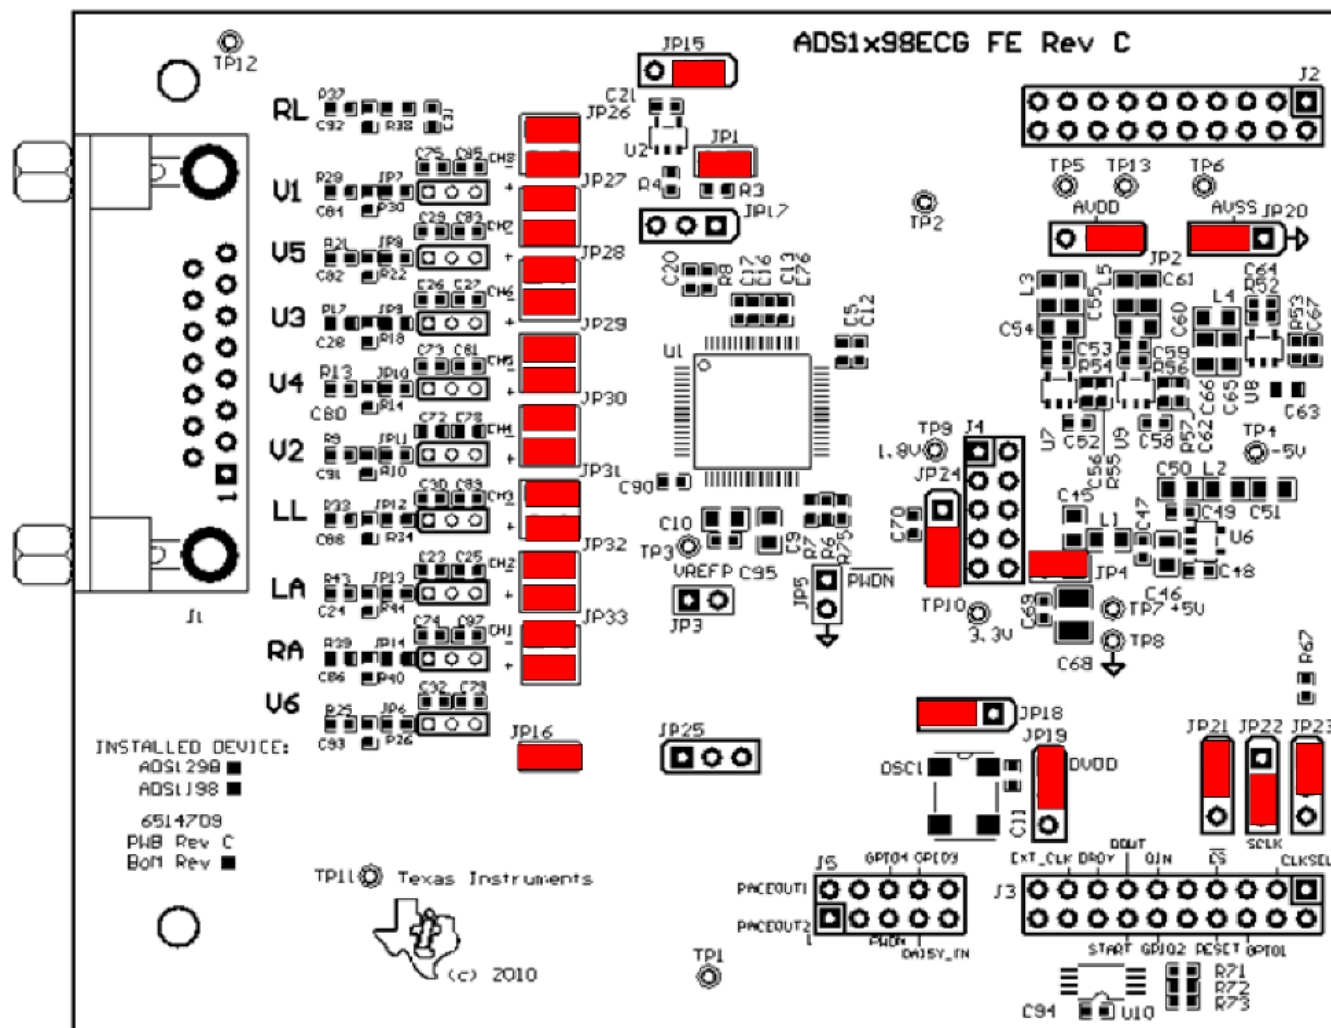

Figure 2. ADS1x98ECG-FE Default Jumper Locations
Figure 2 shows the jumpers found on the ADS1x98ECG-FE EVM and the respective factory default conditions for each.
1. Verify the jumpers on the ADS1298ECG-FE are as shown in Figure 2 (note that these settings are the factory-configured settings for the board).